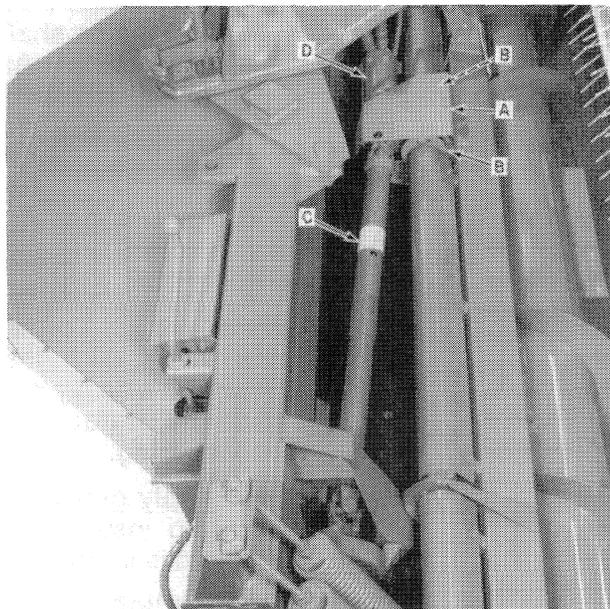

FIGURE 3-1
2. Remove shield, A, Figure 3-1.